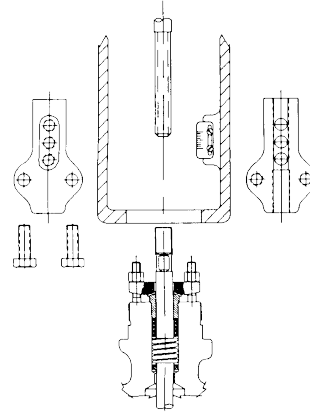

Figure 1 Actuator Removal
2. Disconnect the actuator coupling from the valve stem by disengaging the coupling screws (Figure 1). Disconnect air supply.